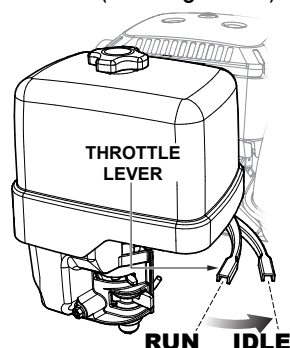

Figure 11. Throttle Lever (Idle Position)
2. Move the throttle lever (See Figure 11) to idle position.